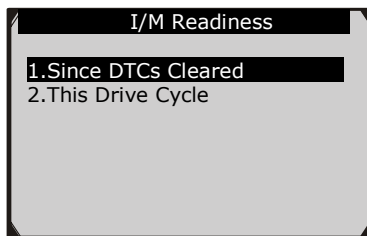

Figure 5.21
- 3) If the vehicle supports both types of tests, then both types will be shown on the screen for selection. (Figure 5.21)